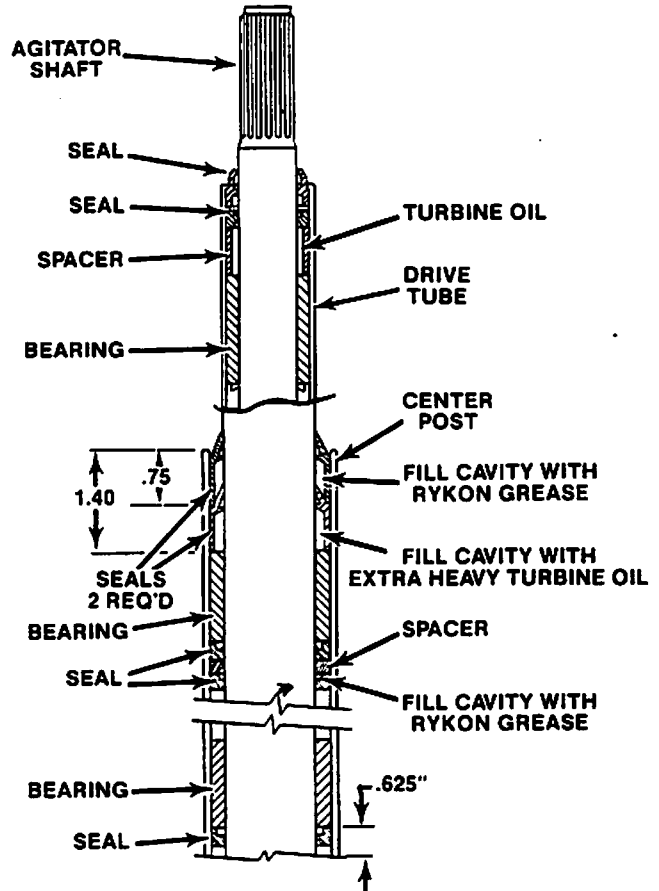
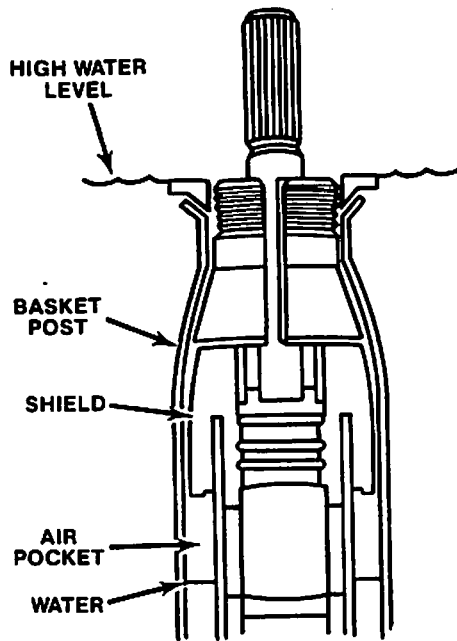

Fig. 43. Centerpost and agitator bearings and seals.
Fig. 44. Spin tube shield.
To prevent water from entering the centerpost or agitator shaft areas, three seals have been added and the location of two (2) bearings has been changed. The upper centerpost bearing is pressed in about  $\frac{5}{8}$  inch deeper. This allows room for two upper centerpost seals (Fig. 43). The position of the agitator bearing in the spin tube has also been lowered  $\frac{5}{8}$  of an inch and a second seal has been added to this area. A third new seal is the spin tube shield. The shield is slipped over the spin tube and rests about one-half inch above the centerpost. The shield forms an air pocket in the basket centerpost. This keeps water from entering the centerpost seal area (Fig. 44).